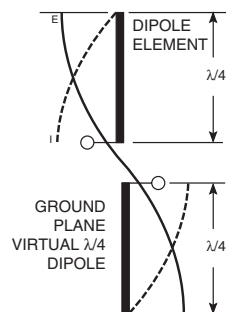

Figure 25: Dipole Antenna
4. In many antenna designs, particularly  $\frac{1}{4}$ -wave whips, the ground plane acts as a counterpoise, forming, in essence, a  $\frac{1}{2}$ -wave dipole (Figure 25). For this reason, adequate ground plane area is essential. The ground plane can be a metal case or ground-fill areas on a circuit board. Ideally, it should have a surface area less than or equal to the overall length of the  $\frac{1}{4}$ -wave radiating element. This is often not practical due to size and configuration constraints. In these instances, a designer must make the best use of the area available to create as much ground